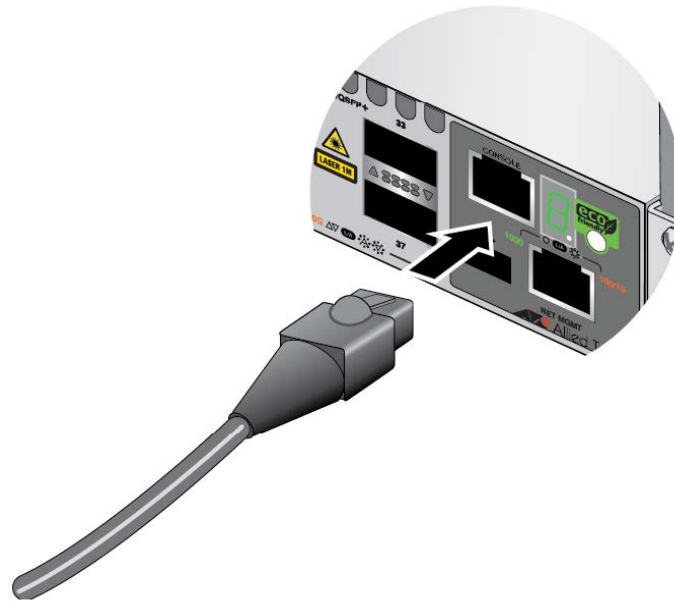

Figure 126. Connecting the Management Cable to the Console RS-232 Port
1. Connect the RJ-45 end of the management card included with the switch to the Console RS-232 port on the management panel. Refer to Figure 126.